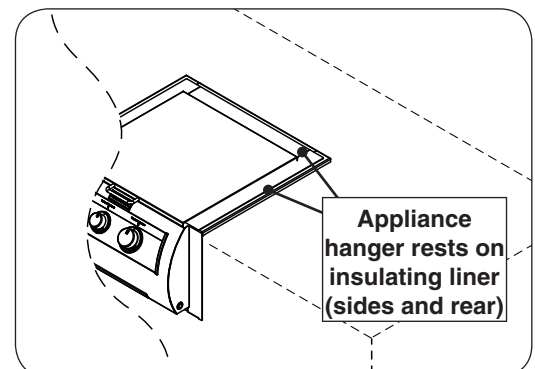

Fig. 3-4 Install appliance into liner
**Important:** Do not allow the appliance hanger to come in contact with the countertop or any combustible surface (see Fig. 3-4).